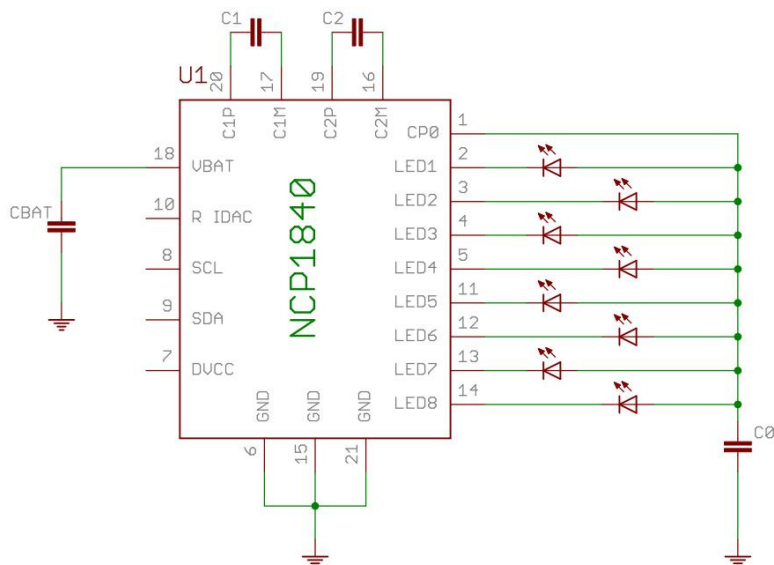

Figure 16. Schematic Showing Charge Pump and Decoupling Capacitors
4. Use good-quality X5R or X7R ceramic capacitors for C_0 , C_1 , C_2 , and C_{BAT} – see Figure 16.